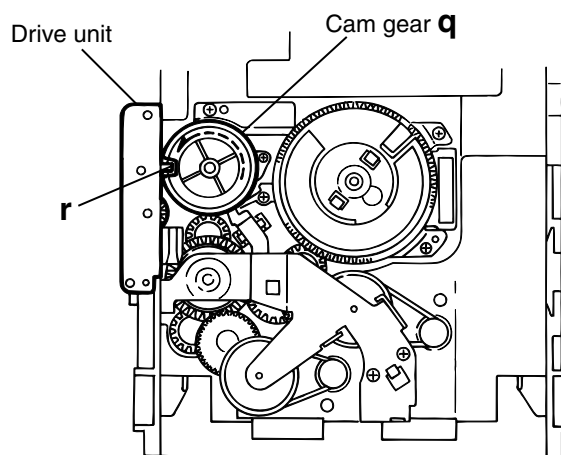

Fig.15
■ Removing the cam unit (See Fig.15 ~17)